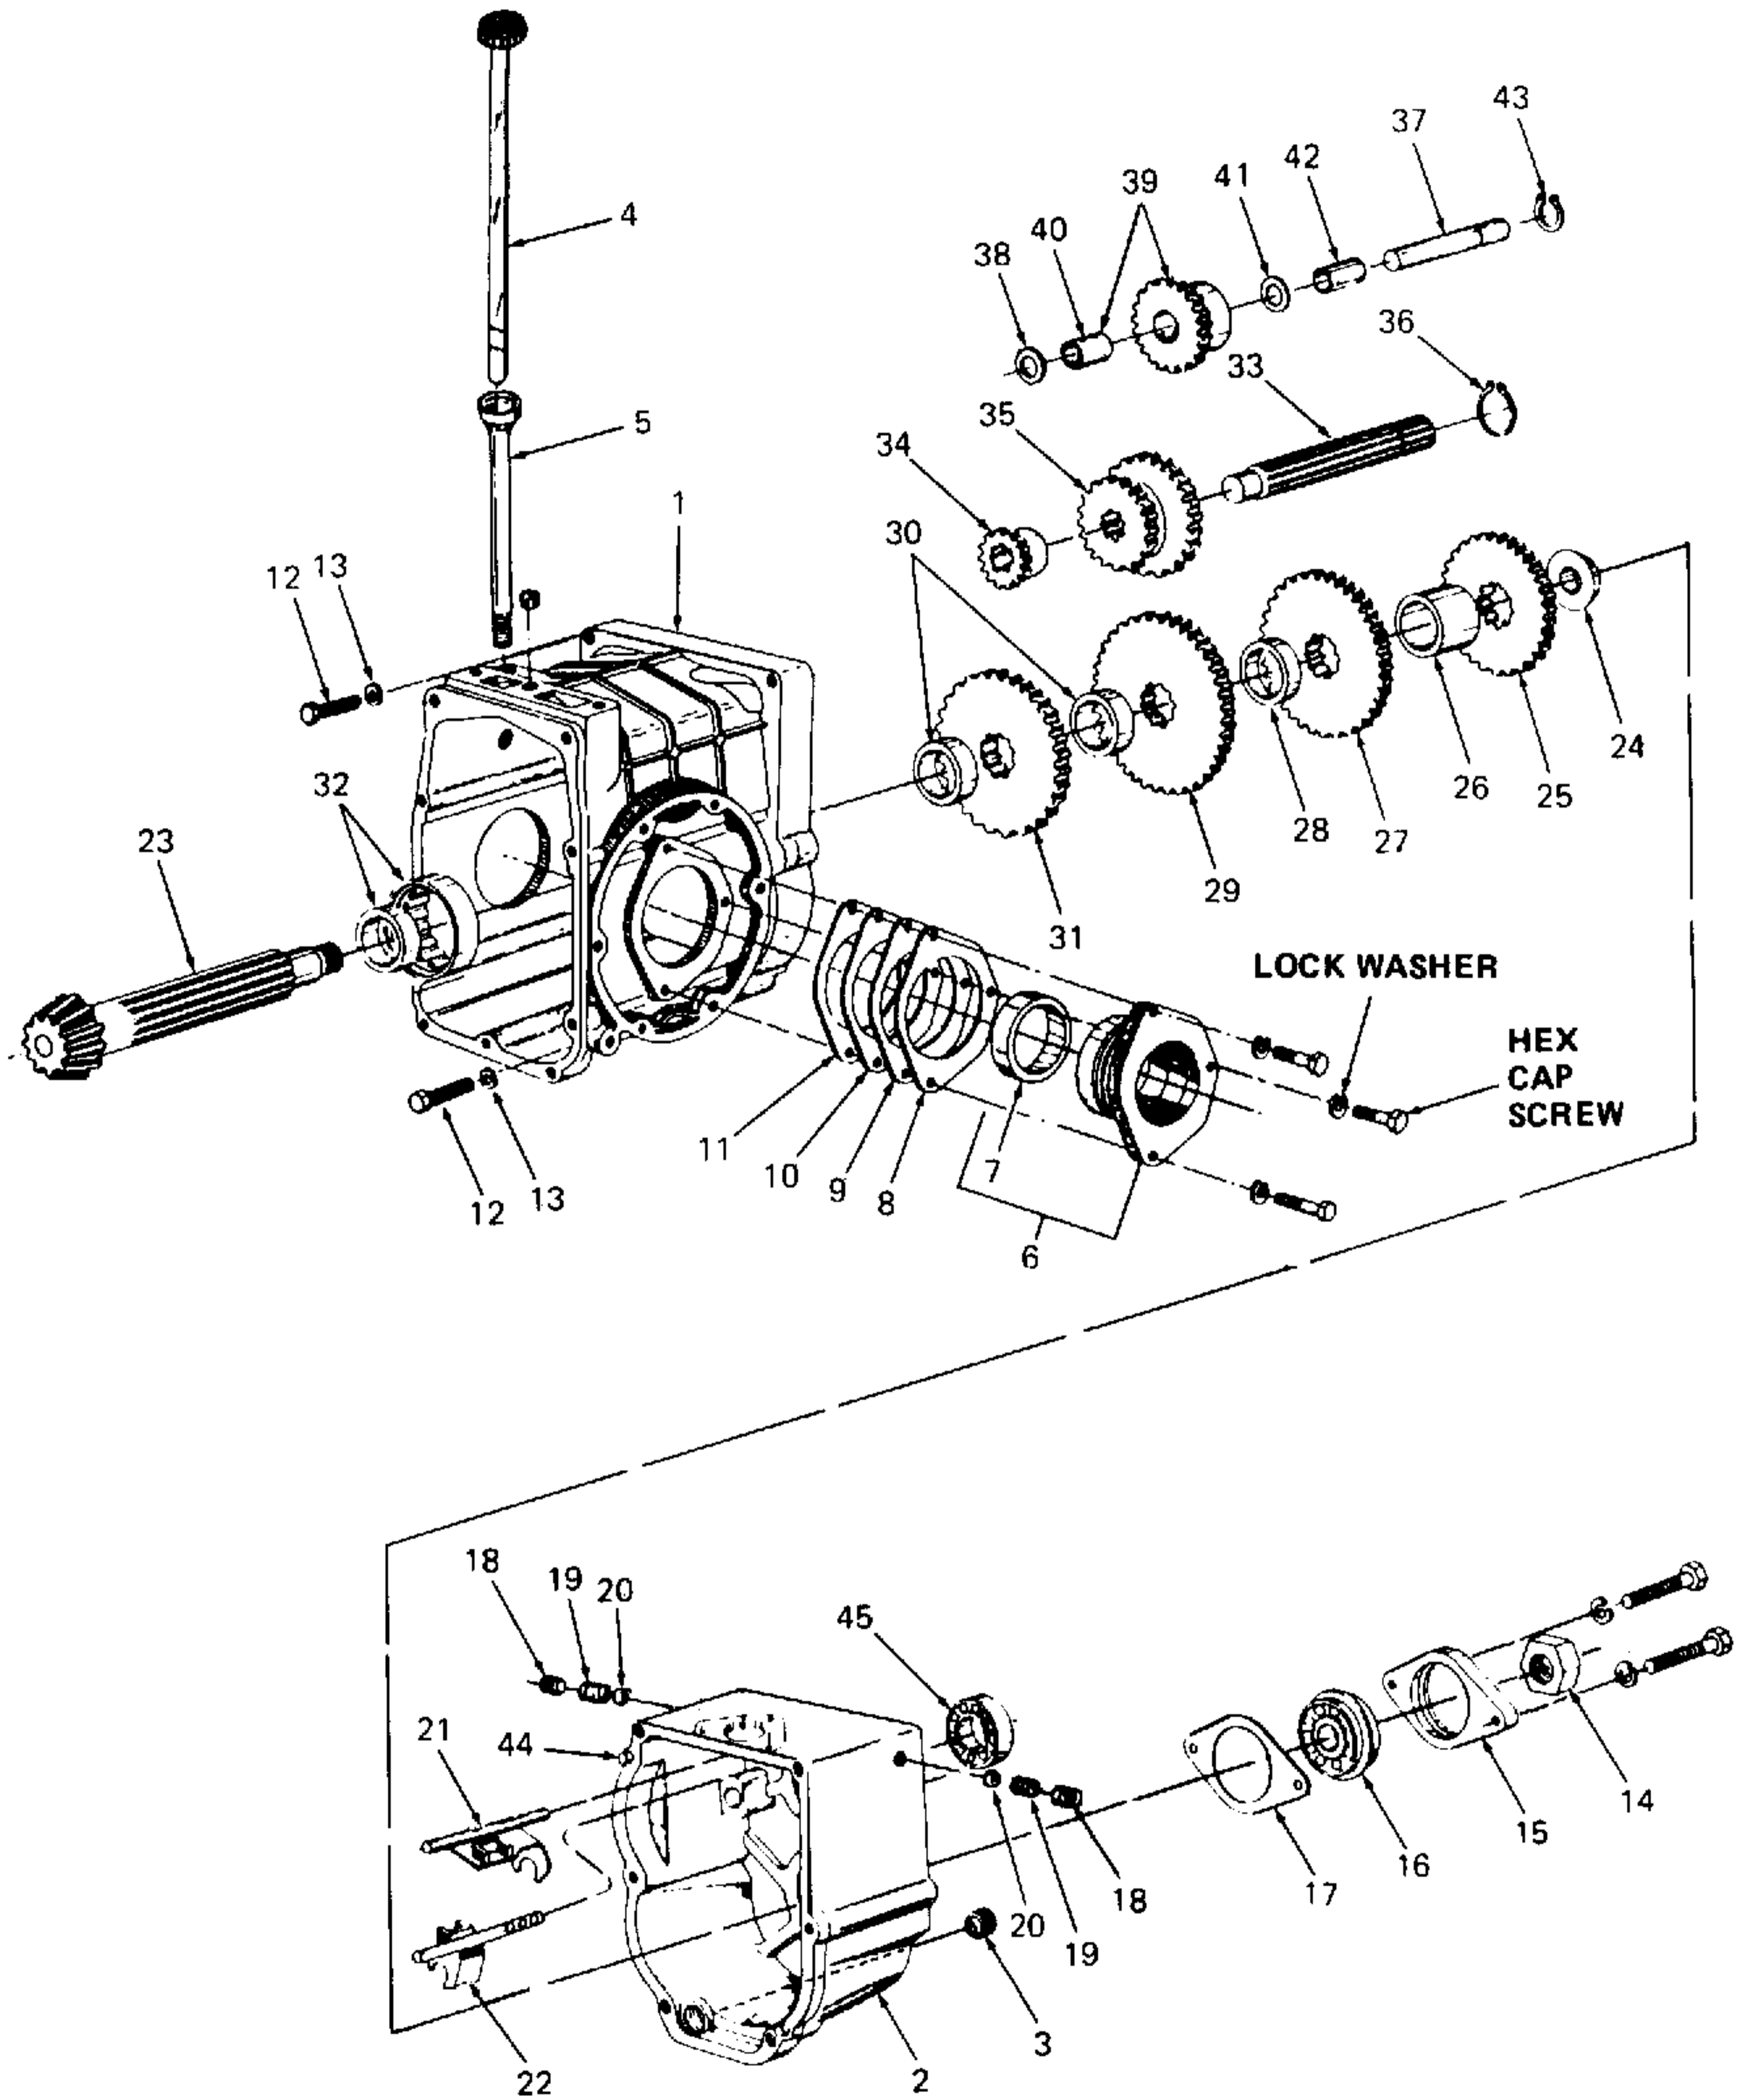

Figure 5-97. Transmission – Rear Housing and Gear Housing.
5. Drain oil from rear housing (1, Figure 5-97). Drain oil from gear housing (2) by removing drain plug (3).
2. Disassemble rear housing (1, Figure 5-97) as follows:
- a. Remove dipstick (4) and dipstick tube (5).
- b. Remove bearing retainer (6) and roller bearing cup (7) from rear housing (1) by removing hex cap screws and lock washers.
Legend for Figure 5-97
6. Inspect rear housing (1, Figure 5-97) and gear housing (2) for cracks.
8. Inspect dipstick tube (5) for cracks. Replace if badly damaged.
10. Inspect spring (19, Figure 5-97) for damage or distortion. Replace if damaged or distorted.
1. Reassemble gear housing (2, Figure 5-97) as follows:
- a. Install dowel pins (44) and bearing (45).
- b. Assemble reverse idler shaft (37) by installing retaining ring (43), sleeve (42), flat washer (41), bearing sleeve (40), reverse gear assembly (39) and spacer (38).
- c. Assemble main shaft (33) by installing snap ring (36), sliding gear (35) and sliding gear (34).
- d. Assemble pinion shaft (23) as follows: